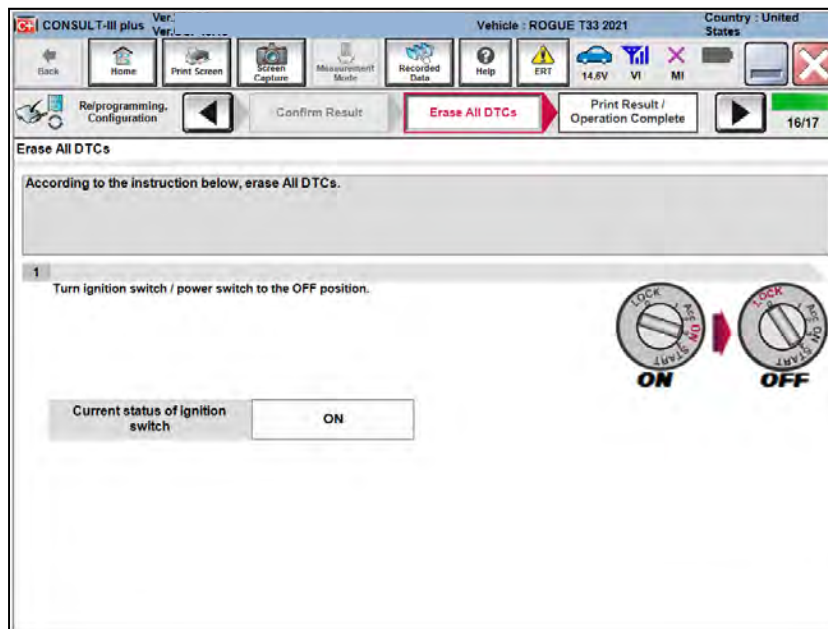
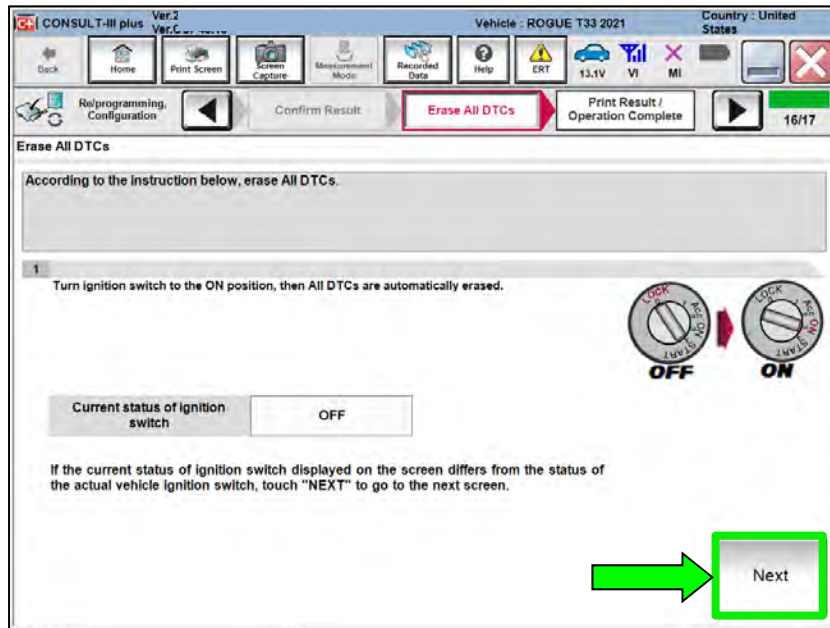

Figure 42
Figure 43
- Follow the on-screen instructions as shown in Figure 42 and Figure 43.